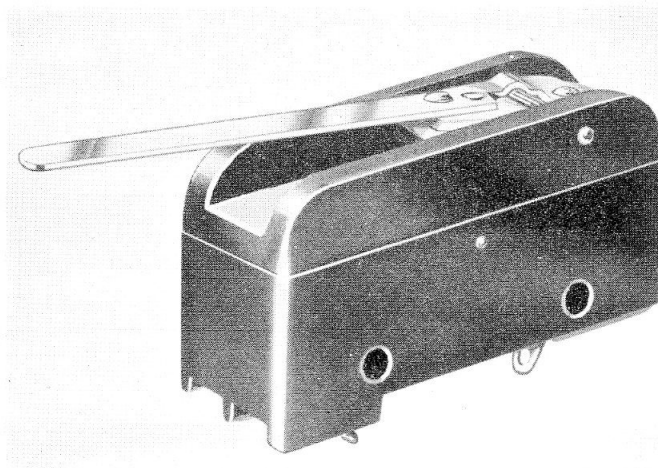

Fig. 1. Micro switch, Type CRW/2
1. Most of these micro switches are similar to the Air Ministry types described in the main chapter. Some have special applications, e.g. Type CRW/2 has a lever actuator and is suitable where the available operating force is very limited. Types CRW/2 and P3 are shown in fig. 1 and 2 as representative types.